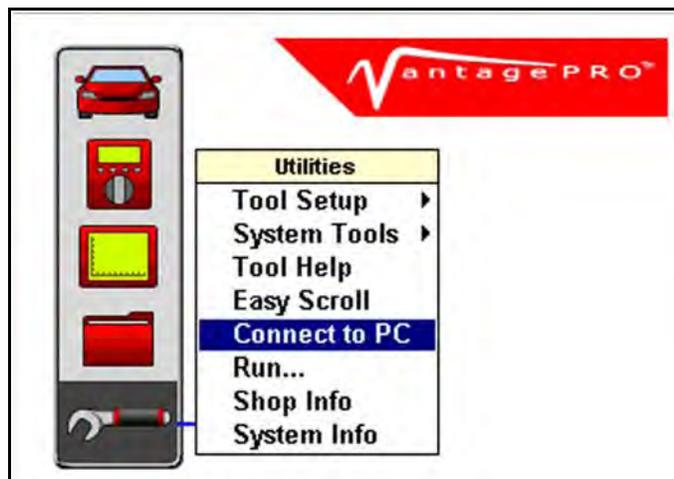

Figure 2-30 Sample Vantage PRO utilities menu
2. From the Main Menu, navigate to **UTILITIES > Connect to PC** (Figure 2-30).